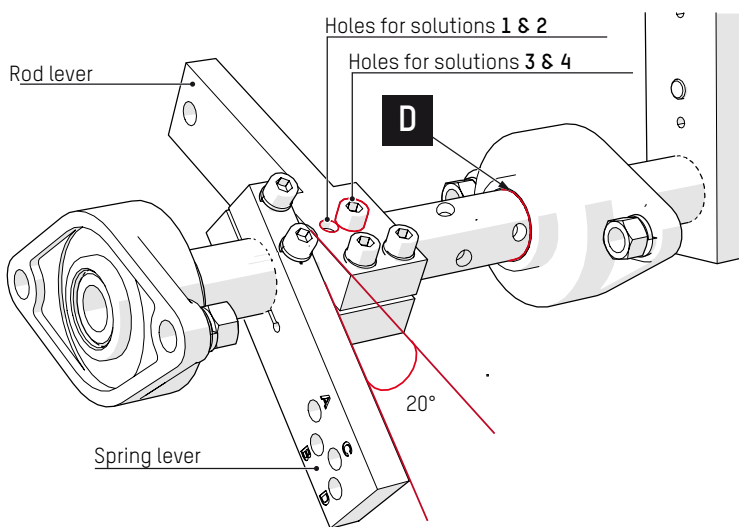
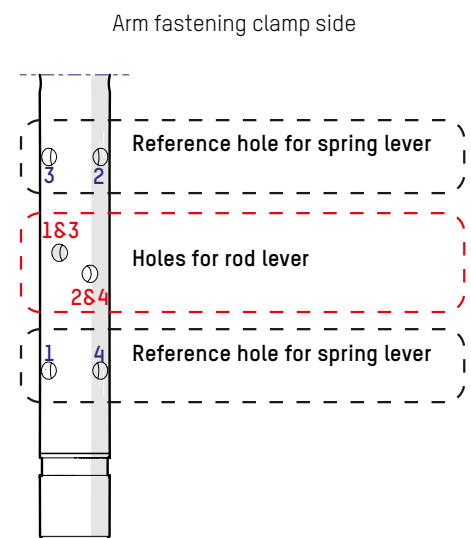

Fig. 23 - Arm shaft (Solution 4)
Fig. 24 - Rod and spring levers marks on the shaft, according to the considered solution
1. Screw the rod lever onto the shaft, by passing the screws through the holes in the rod and shaft corresponding to the considered solution (⇒ Fig. 23 and Fig. 24).
2. Align the spring lever hole with the hole on the shaft corresponding to the considered solution (⇒ Fig. 24): figures indicated on the illustration (1 to 4) indicate which reference hole to use according to the considered solution (1 to 4). With correct positioning, the rod lever and spring lever make a 20 degree angle as shown (⇒ Fig. 23).
Similarly, the arm shaft must be positioned in relation to the bearings so that the circular reference mark on the arm shaft (D) is level with the side of the bearing (⇒ Fig. 23).
1. First check the position of the levers on the arm shaft (⇒ Fig. 23, page 23).